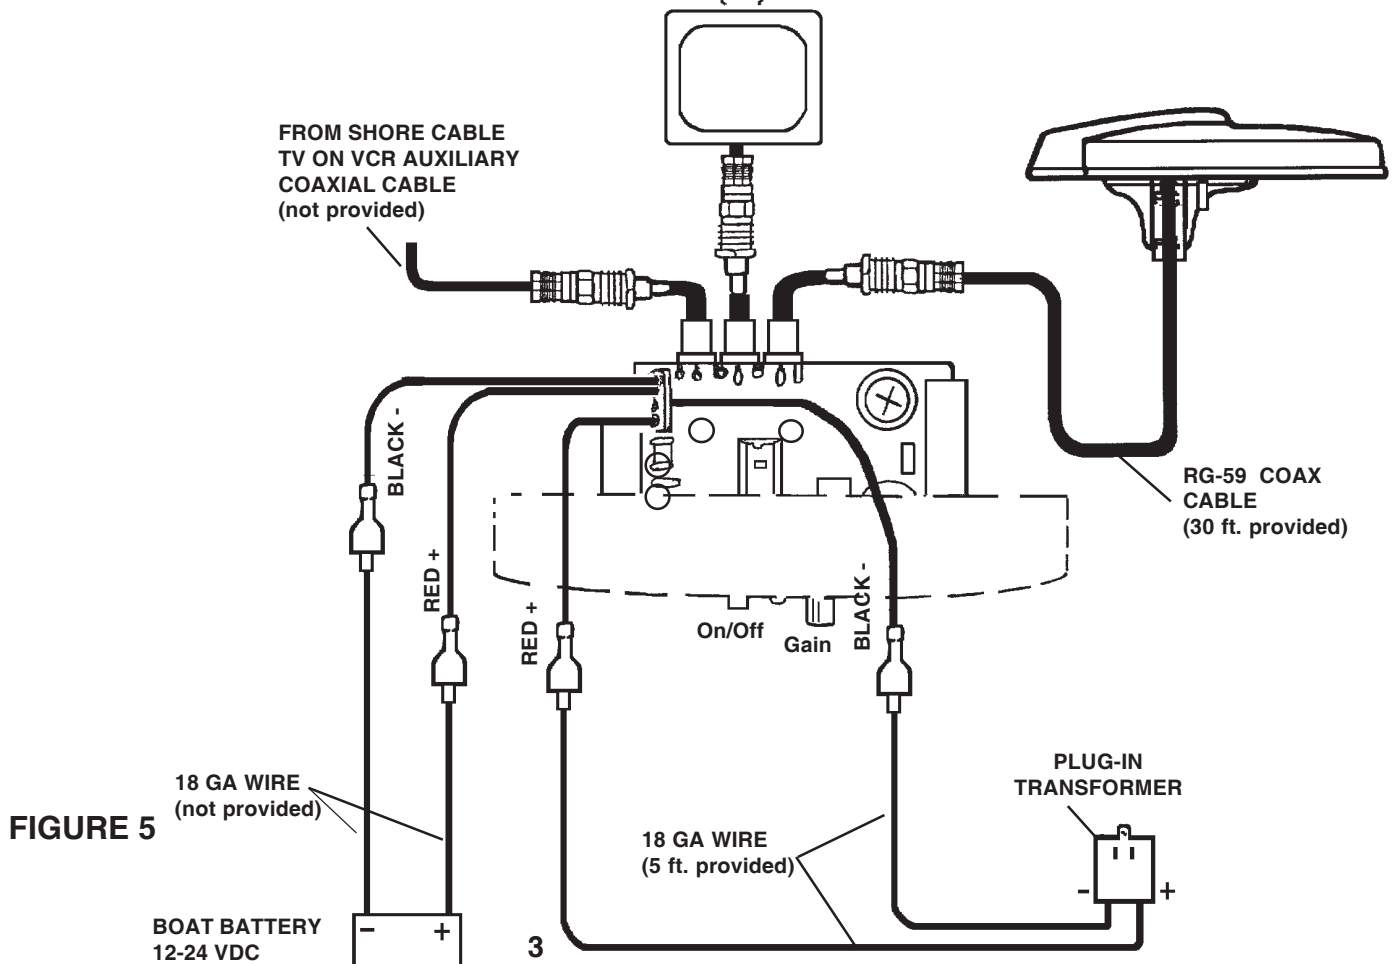

FIGURE 5
1. The 5 ft. 18 GA power wire (#7) provided has a + (red) wire and - (black) wire. Crimp ring terminals (#11) on one end of power wire. Connect two insulated quick-disconnect terminals (#12) to other end. Connect the end with the quick-disconnect terminals to the back of the control box, as shown in Figure 5. Connect the end with the ring terminals to the appropriate + (red) and - (black) terminals on the 117 VAC plug-in transformer (#6), Figure 5.
2. There are three coax cable connections on the back of the control box — Antenna, TV Set and Auxiliary (for cable, VCR, satellite, etc.). Attach cable from antenna to the antenna connector on the control panel. If an auxiliary source will be used, connect it now. Connect the TV cable to the back of the control panel. See Figure 5 for correct connections.
3. To connect a 12-24 VDC power source to the back of the control box, install two (#12) quick disconnect terminals on an 18-ga. insulated wire (not provided). Be sure to observe correct polarity when making these connections. See Figure 5.